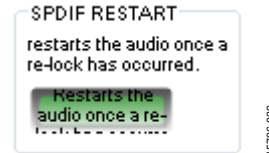

Figure 39. Activating the **SPDIF_RESTART** Register
- c. Enable the **SPDIF_RESTART** register by clicking **Do not restart the audio once a re-lock has occurred** in the **SPDIF RESTART** box. When this button is clicked, the text displayed on the button changes to **Restarts the audio once a re-lock has occurred** and the button color changes from red to green (see Figure 39).